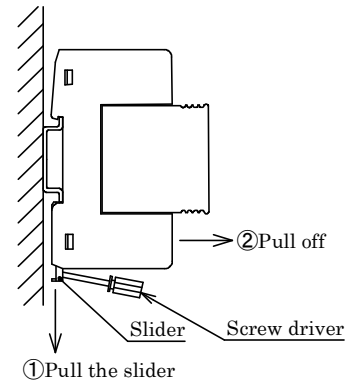

Fig.3 Removing from DIN rail
- b) Removing method (Ref.Fig.3) :